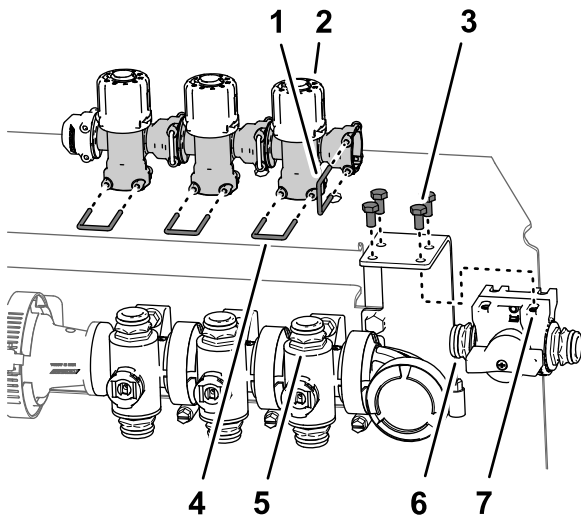

Figure 49
- Remove the 4 bolts (6 x 12 mm) that secure the bypass-shutoff valve to the valve-support bracket (Figure 49).
- Remove the retainer that secures the bypass-shutoff valve to the bypass valve for the right boom section valve, and remove the shutoff valve (Figure 49).
- Remove the 3 retainers that secure the 3 bypass valves to the 3 manifold valves (Figure 49).
- Lift the 3 bypass valves from the 3 quick couplers of the manifold valves (Figure 49).